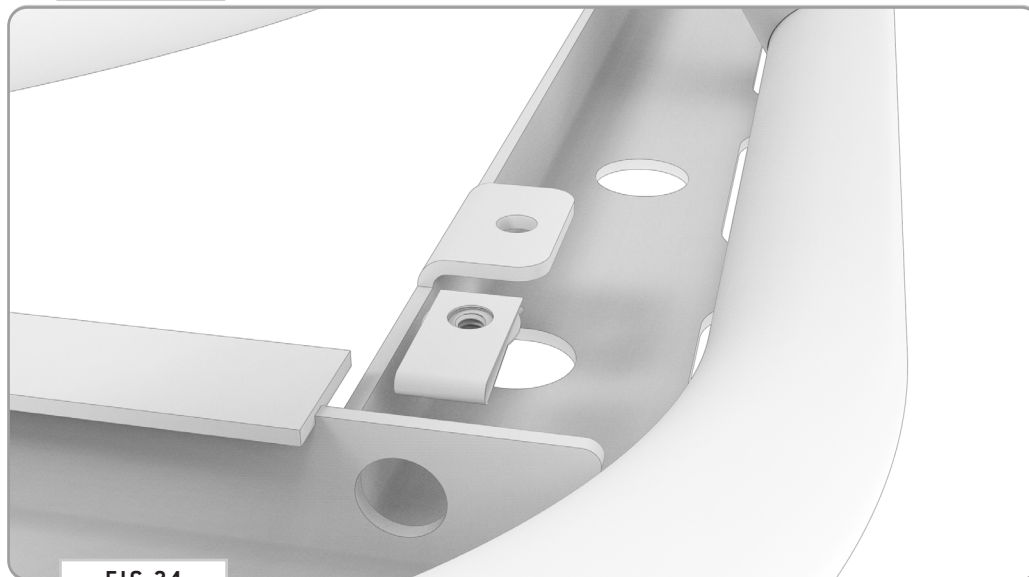

FIG 24
**NOTE** - The flat side of the **Clip Nut** should be facing upwards (FIG 24)